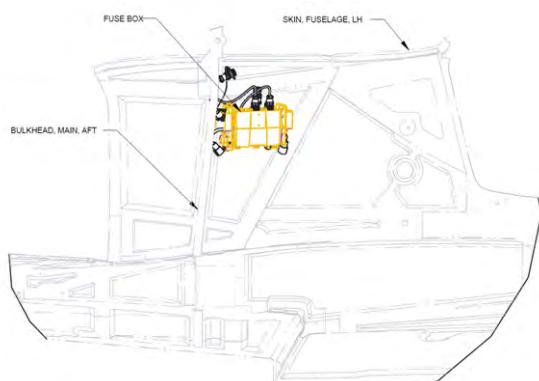

FIGURE 16-57
2. Locate the fuse box forward of the AFT bulkhead, LH. See Figure 16-57.